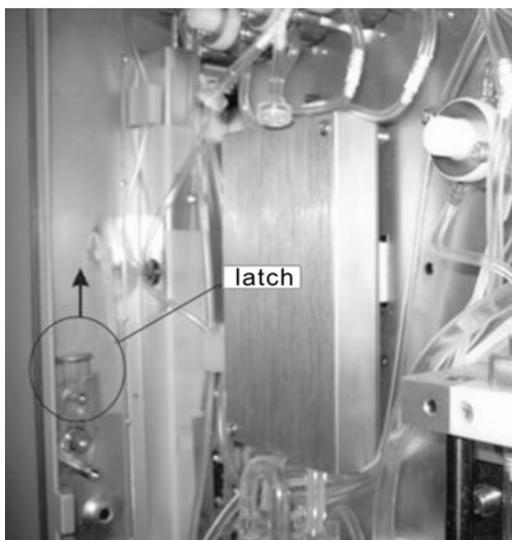

Figure10-16
2. Lift up the front panel latch as indicated in Figure10-16 and open the front panel.